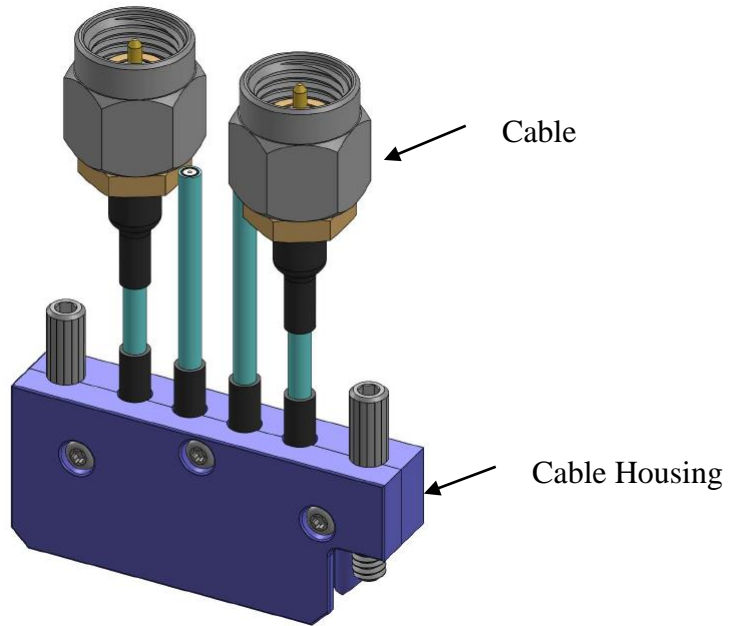

Figure 6: Cable Assembly, 4 Position, top view
- 3.3. See Figures 6 and 7 for representative view to illustrate Cable Assembly. Views are of 4 position Cable Assembly
6.1. Reference Figures 6 and 7.